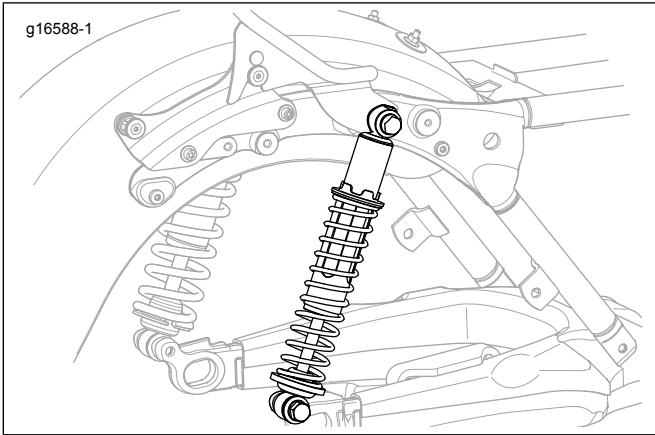

Figure 2. Shock Absorber Orientation with P&A Detachables
**\* If interference is encountered at the shock absorber mounts: Remove the right side shock absorber. See the service manual. Reinstall the shock absorber in the rod down position. See Figure 2. This will allow the necessary clearance for sissy bar installation. If fitment issues continue, contact a Harley-Davidson dealer for assistance.**